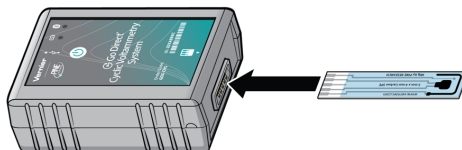

Figure 1
- Insert a screen-printed electrode (SPE) into the SPE connector on the Cyclic Voltammetry System (see Figure 1).